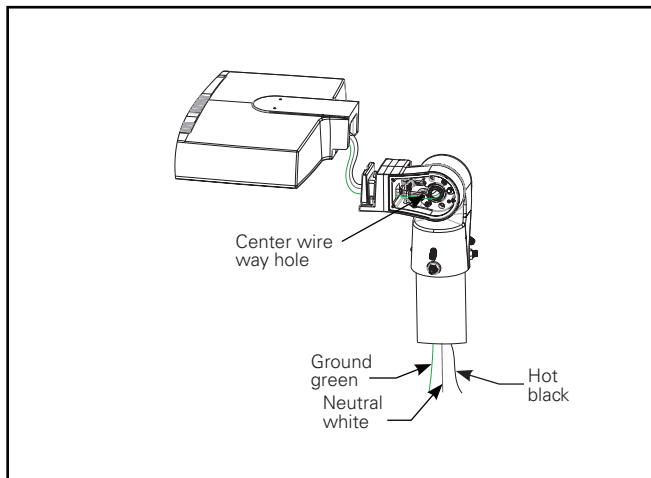

Figure 7.
- Loosen the two adjustment bolts within the arm in the slots. Do not fully remove bolts. Adjust the arm to the desired position and retighten the adjustment bolts to 20 ft-lbs. (27N-m). (Figure 7.)
- Support luminaire while lowering it on to mounting arm cleat feature and thread fixture power supply leads through opening in mounting arm into arm cavity. Continue to route luminaire power supply lead through center wire way hole leading into slipfitter arm cavity. Allow luminaire to rest fully on cleat feature (Figure 7).